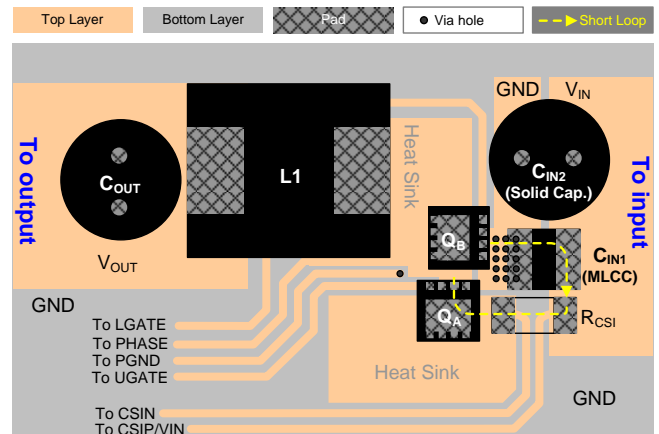

Figure 7. Recommended PCB Layout of the Power Stage
- ▶ Figure 7 is a recommended placement of the PWM Buck power-stage. A critical loop from “ $C_{IN1} \rightarrow R_{CSI} \rightarrow Q_A \rightarrow Q_B$  to  $C_{IN1}$ ” must be as short as possible to minimize the switching noise at CSIP/VIN and CSIN pin. The short paths also reduce radiated EMI. It's necessary to use an MLCC ( $10\mu F/50V$ , X5R/X7R) for the input capacitor ( $C_{IN1}$ ). For reducing input and output voltage ripple during heavy load operation, it is recommended to add more MLCCs or solid input and output capacitors. To improve heat dissipation, increase the PCB areas for Drains of high-side and low-side MOSFETs.